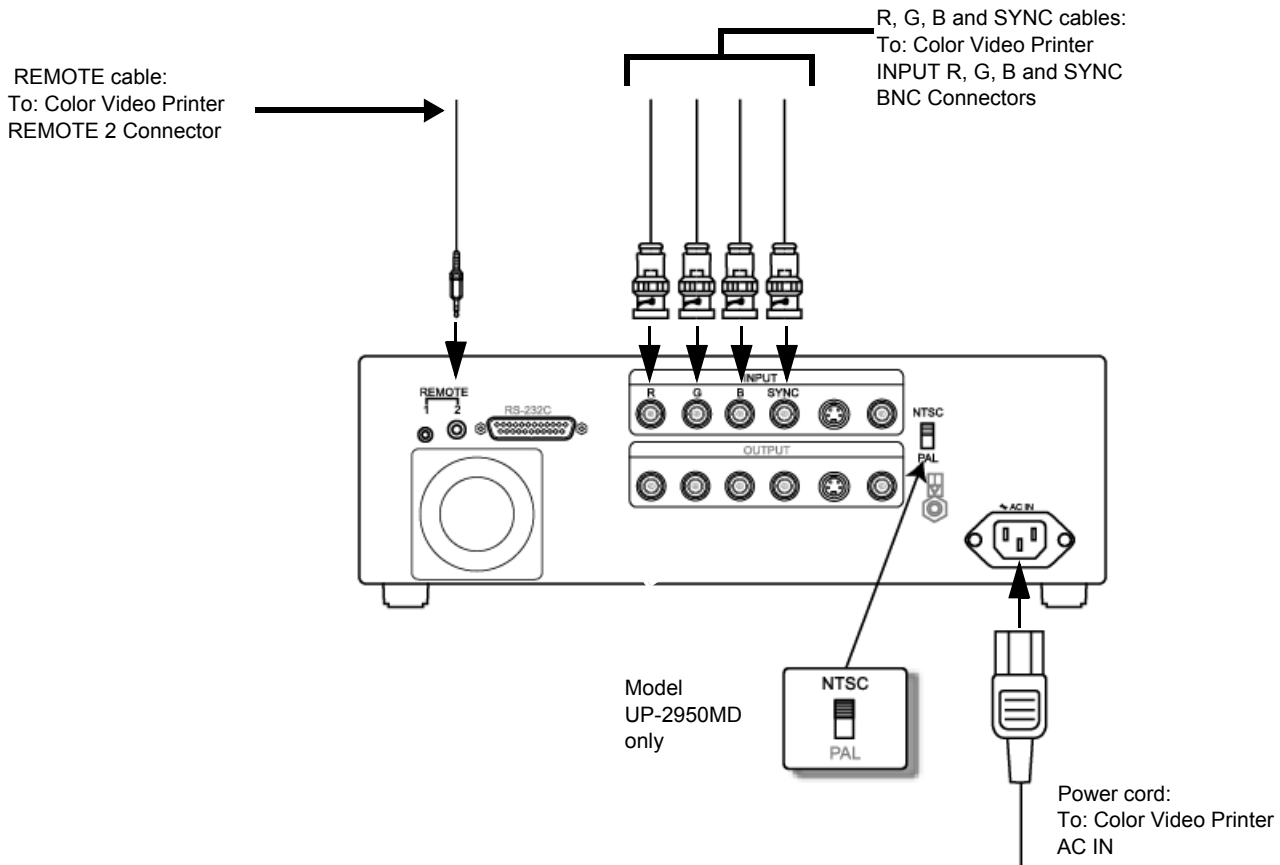

Figure 8-158 Color Video Printer Connection Cables
- 5.) Set the NTSC/PAL selector switch to NTSC (this applies only to Model UP-2950MD) as shown in Figure 8-158 on page 8-160.
- 18) Connect the RGB and SYNC cables, Color Printer Remote cable, and AC power cable (hanging out of the Bottom Metal Cover slot - see Figure 8-153 on page 8-157), to the Color Video Printer, as shown in the diagram in Figure 8-158 on page 8-160.